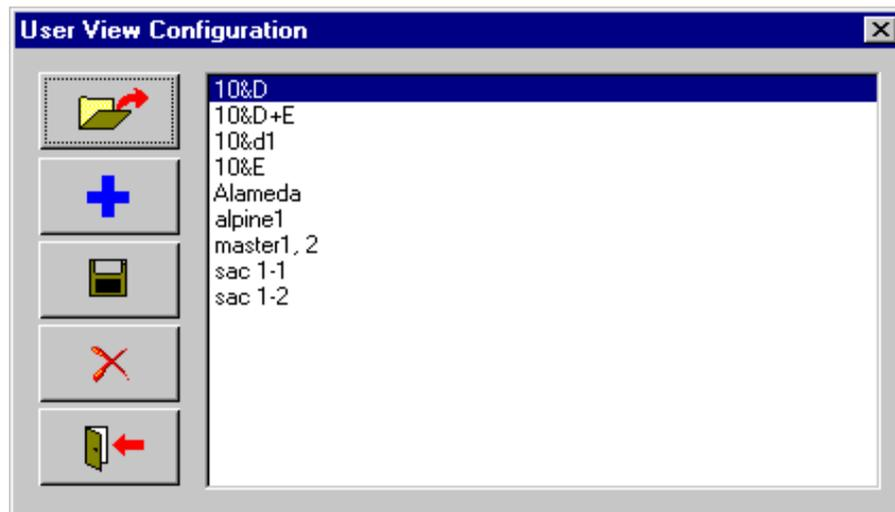

Figure 4.5 – User View Configuration Dialog Box
Once the desired area is identified and zoomed, the view can be saved for future use. To save a view, click on the “User View Configuration” button, a dialog box as shown in the Figure 4.5 will open.
- Click on the “User View Configuration” button. The dialog box as shown in the Figure 4.5 will appear.